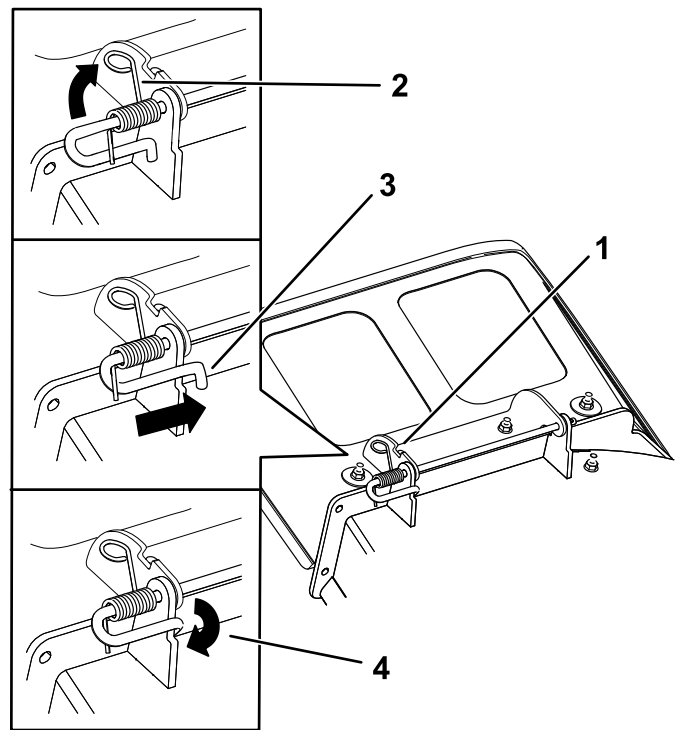

Figure 78
- Secure the rod and spring assembly by twisting it so that the short end of the rod is behind the mower bracket welded to the deck (Figure 78).
- Position the new discharge deflector with the bracket ends between the welded brackets on the deck as shown in Figure 78.
- Position the spring on the rod as shown in Figure 78 so that the shorter spring end comes from under the rod before the bend and going over the rod as it returns from the bend.
- Lift the loop end of the spring and place it into the notch on the deflector bracket (Figure 78).